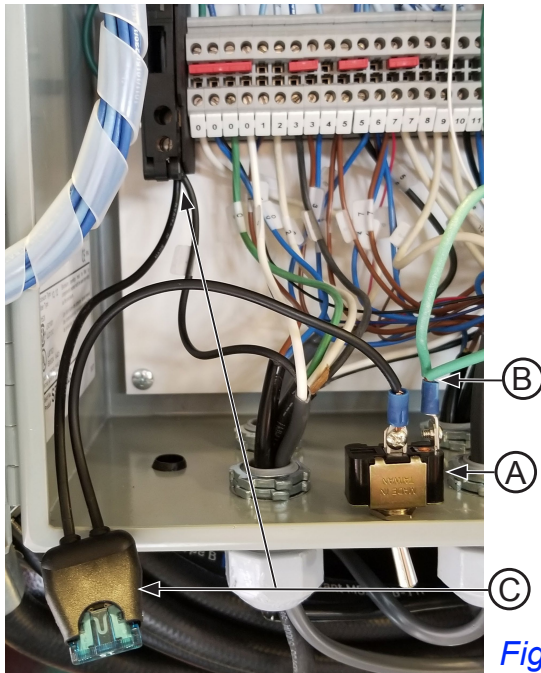

Fig.2
5. Install toggle switch **(A)** with side prong towards right side of control panel. See Fig.2.